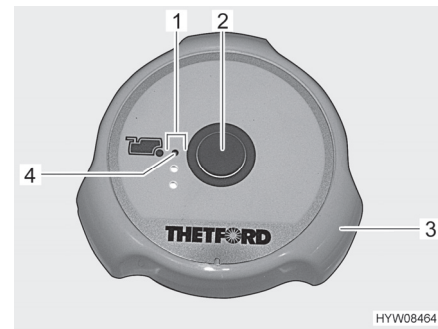

Fig. 201 Flush button/indicator lamps (Thetford toilet)
- Before flushing open the sliding trap of the Thetford toilet. To do this, turn the rotary handle (Fig. 201,3) in an anticlockwise direction.
- For flushing, press the blue flush button (Fig. 201,2).
- After flushing close the sliding trap. To do this, turn the rotary handle (Fig. 201,3) in a clockwise direction.
The indicator lamps (Fig. 201,1) show the filling level of the sewage tank. The red indicator lamp (Fig. 201,4) lights up whenever the sewage tank has to be emptied.